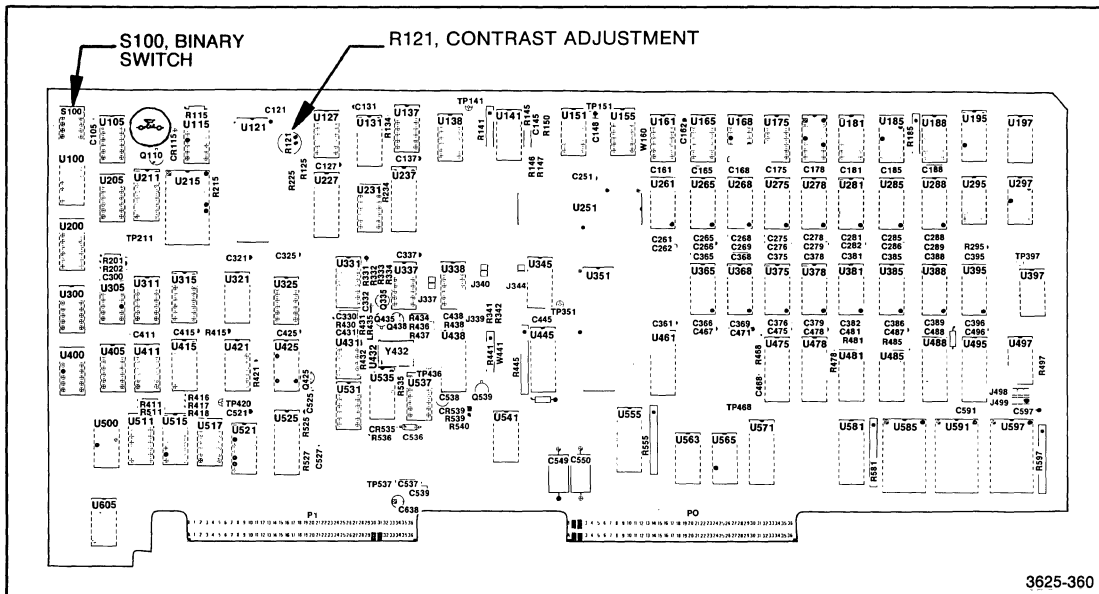

Figure 5-43. Controller adjustment locations.
The Controller has two adjustments. Only one of the two needs to be performed, depending on whether the Controller is used with a monochrome or a color display monitor. Perform only those adjustments applicable to your situation. See Figure 5-43 for adjustment locations.
6. Rotate the contrast control, R121 on the Controller, until a pleasing display is shown by the display monitor. When adjusting contrast, one good procedure is to watch a highlighted field for maximum readability combined with the brightest possible highlight field. See Figure 5-43 for the location of this control on the Controller board.
6. Set switches 1, 2, and 3 of S100 on the Controller board so the display is centered on the display area. The switches are organized in binary, where a closed switch represents a 1 and an open switch is a 0. As the binary number specified on S100 gets larger, the center of the display is shifted more to the right. As the binary number decreases, the display shifts to the left. The location of S100 on the Controller board is shown in Figure 5-43.